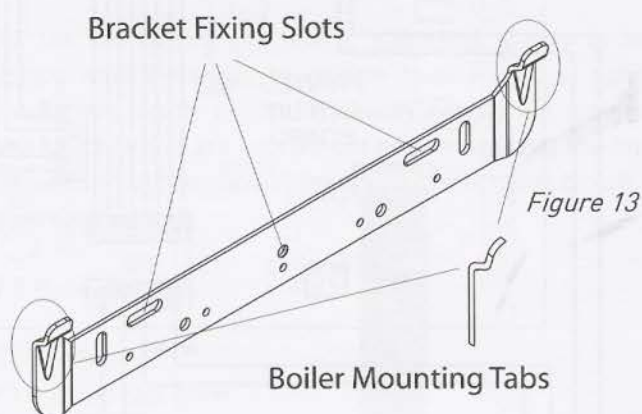

Figure 13
10.5 Using a 8.5mm drill bit, drill the holes for fixing jig (optional) and hanging bracket. Locate and secure the supplied wall mounting bracket in position (*figure 13*).
10.6 Mount the boiler onto the fixing bracket via the boiler mounting slots, (*figure 13*).